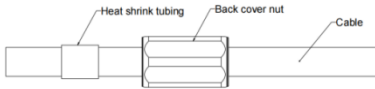

Figure 6-7-2 Thread the cable and heat shrink tubing
- 2) Thread the cable and heat shrink tubing through the back cover nut as shown in Figure 6-7-2.